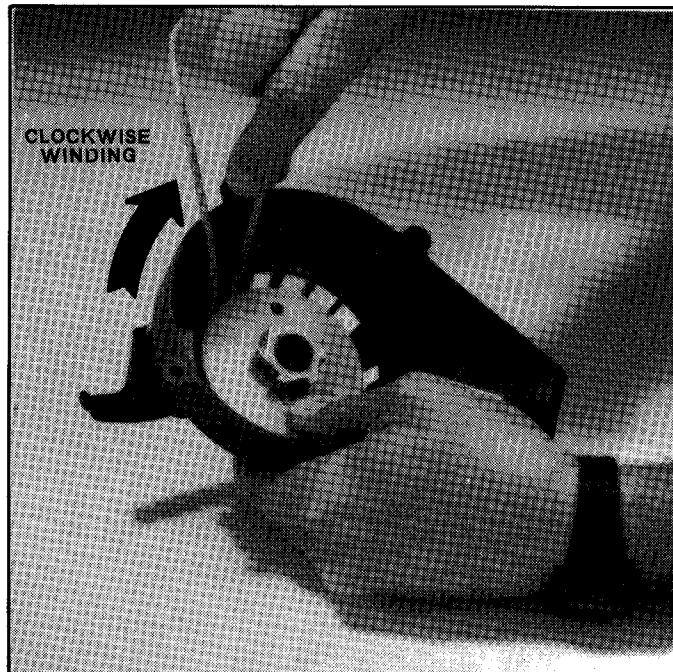

FIGURE 7.9
7.5 To wind the spring for retracting the starter rope pull the rope through the rope guide to the inside of the housing. While holding the rope to prevent it from wrapping around the pulley, wind the pulley in a clockwise direction 4 turns. Hold the pulley from re-coiling and pull the rope through the rope guide to the outside of the housing. Carefully allow the pulley to slowly re-coil winding the rope onto the pulley. Re-install the pulley retainer and screw. See Figure 7.9.